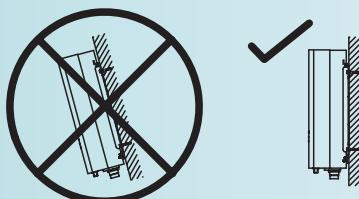

Fig. 2
- Choose a solid vertical wall that can carry the inverter's weight (**Fig. 2**).